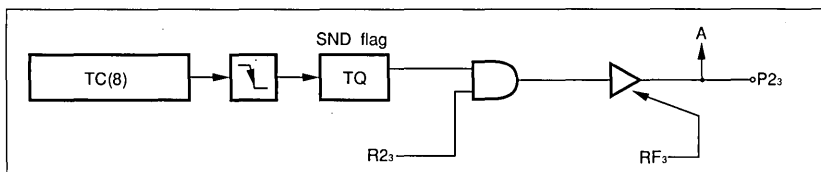

Fig. 6 SND Signal
The count pulse CP can be selected from divider signals f_{IN} , f_b and f_0 , and the system clock, by using the mode register RD. If the count register (TC) overflows, the SND flag reverses its status at the falling edge of the TC. A sound signal can be obtained at the TC output by putting P2 in output mode and sending a "1" to pin P2₃ (See Fig. 6).